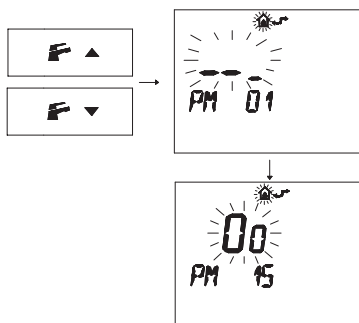

Fig. 8.3
- Press buttons \mathbb{F} \blacktriangledown or \mathbb{F} \blacktriangle to display the "PM15" program that enables the external probe (Fig. 8.3).